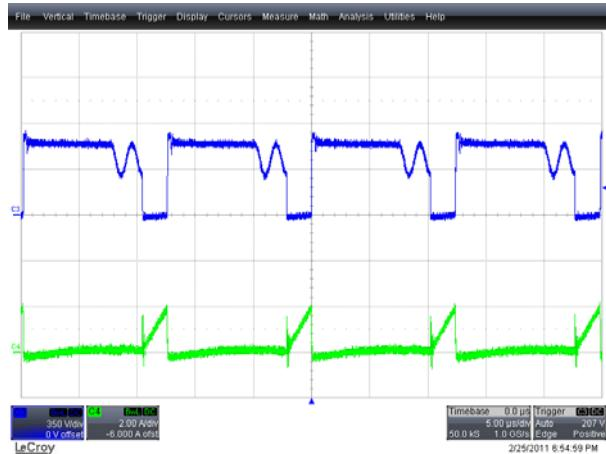
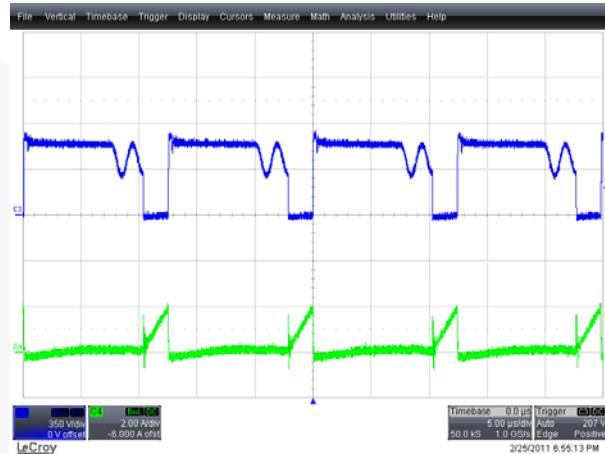

Figure 39. 90 V_{AC} / 60 Hz, CH3 (Blue):
Figure 40. 277 V_{AC} / 60 Hz, CH3 (Blue): $V_{DS(QR)}$,
Figure 39 and Figure 40 show the V_{DS} and I_{DS} waveforms of the MOSFET (QR) at different input voltage conditions.